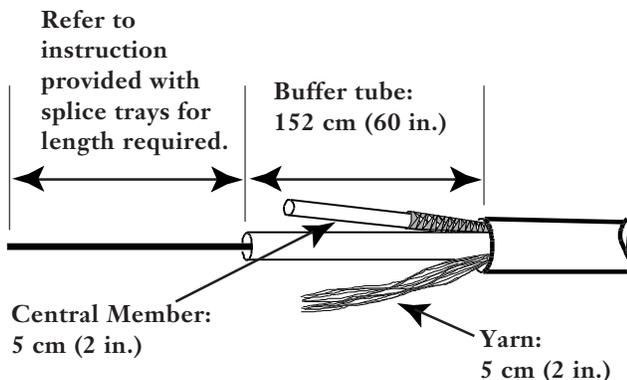

Figure 4
**6.2** Remove cable sheath as specified in instructions for the cable you are installing (Figure 4).